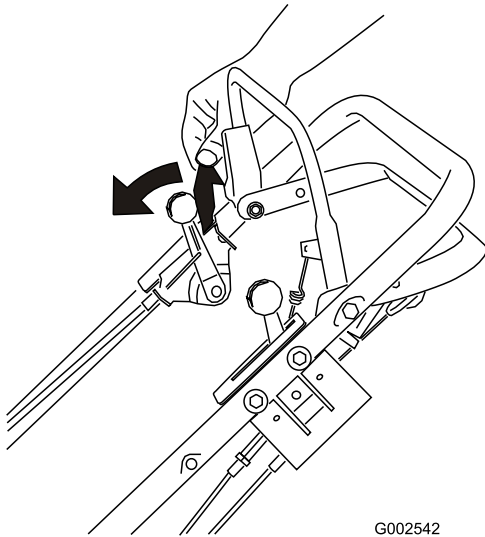

Figure 14
1. Push the control bar lock forward (Figure 14).